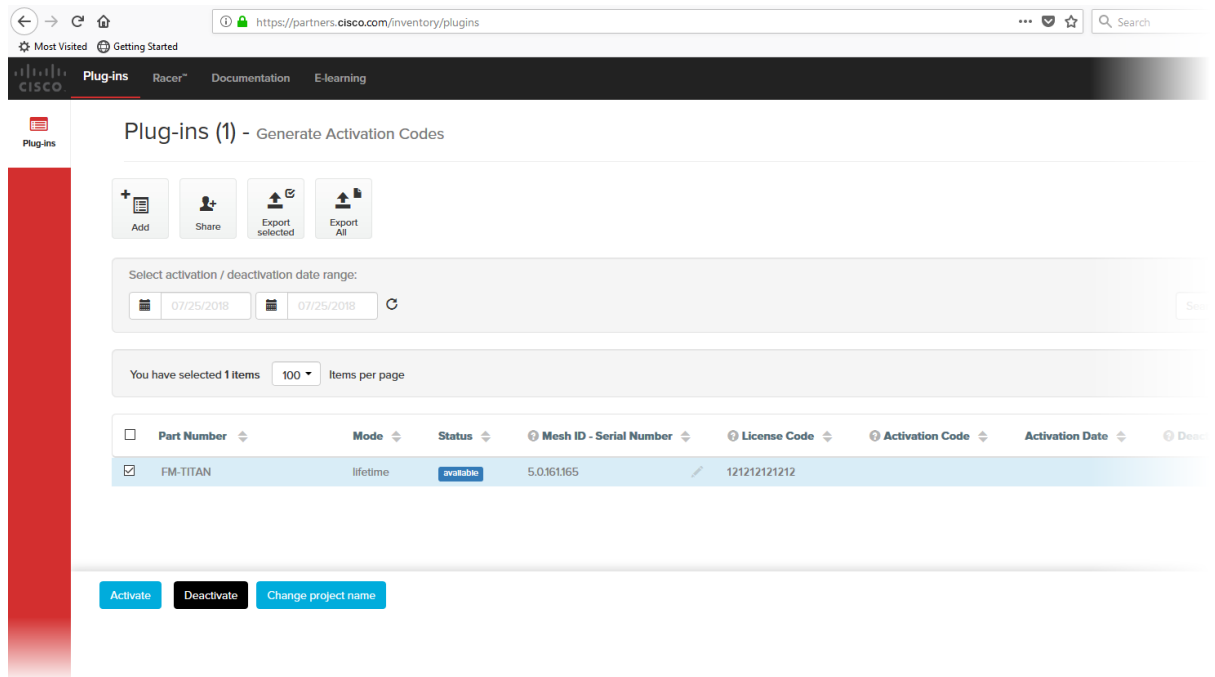

Figure 58. Partner Portal Plug-ins page (License code plug-in)
- When you purchase a generic 16-digit *License code*, the License code and corresponding plug-in will be listed on the Plug-ins page (Figure 58 \(page 112\)).